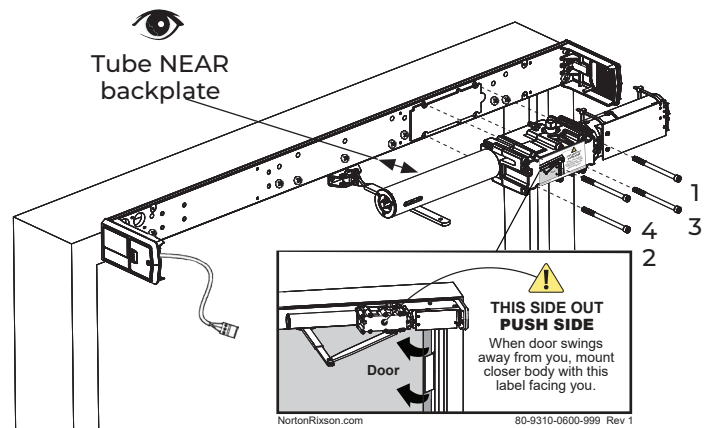

Fig. 9
1. Using the four (4) screws provided, install the operator body to the backplate. (Fig. 9)
- Screws must be tightened in a cross pattern until all four (4) screws are tight. (Fig. 9)
- “This side out PUSH SIDE” label is facing away from the backplate. (Fig. 9)